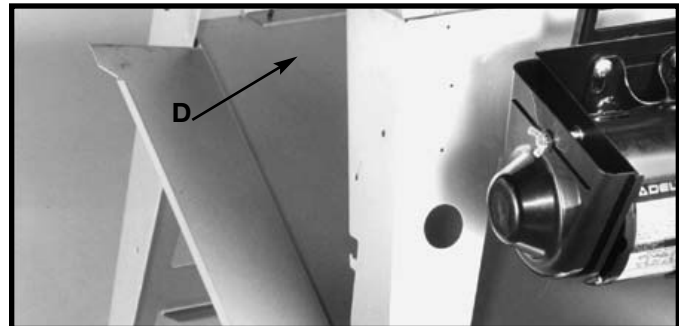

Fig. 80
The saw stand support panel (D) Fig. 80 also serves as a natural built-in dust chute. This dust chute (D) allows the sawdust to conveniently escape out the rear of the saw stand and away from the work area.